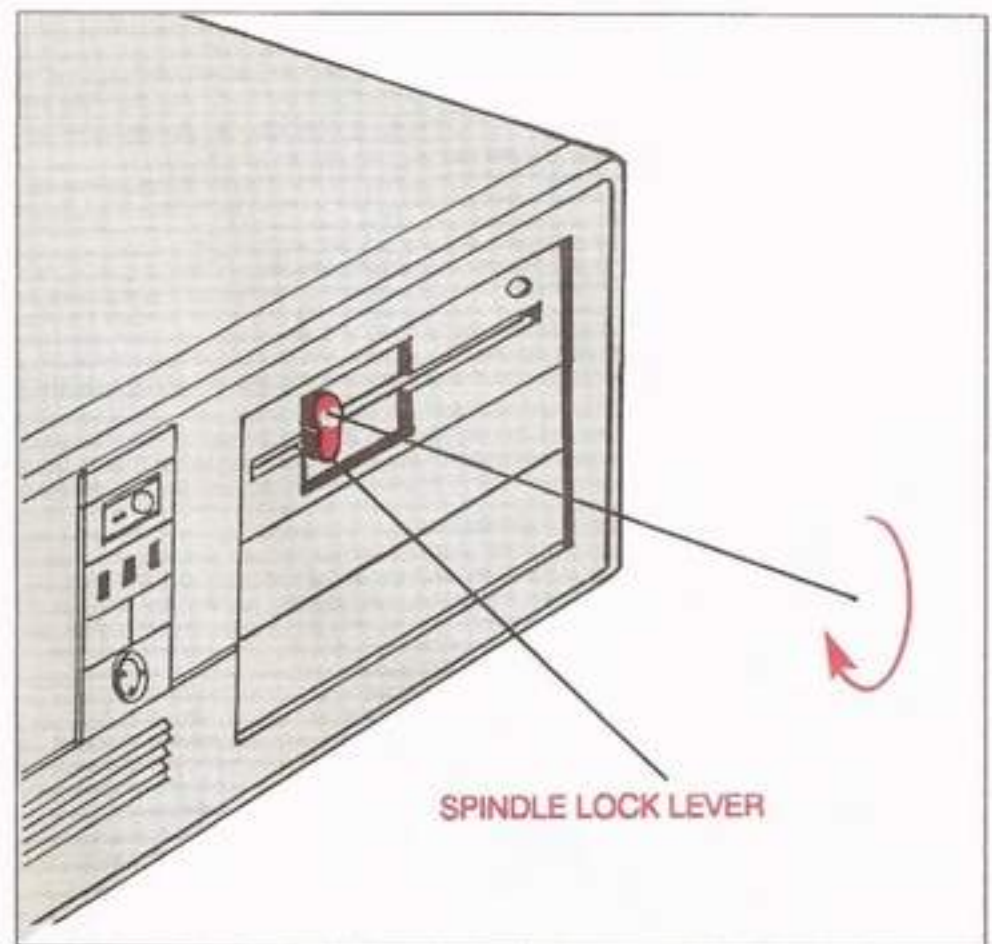

Fig. 14: Locking the Spindle Lock Lever
- ___ f. Once the disk has cleared the spindle lock lever, push the lever into its locked position, as depicted in Fig. 14. If there is any hint of jamming, do not force it down. If the disk is positioned properly, the lever will lock easily. *Note: The spindle lock lever lowers the drive-motor spindle into the spindle hole in the center of the disk to hold it firmly during rotation.*